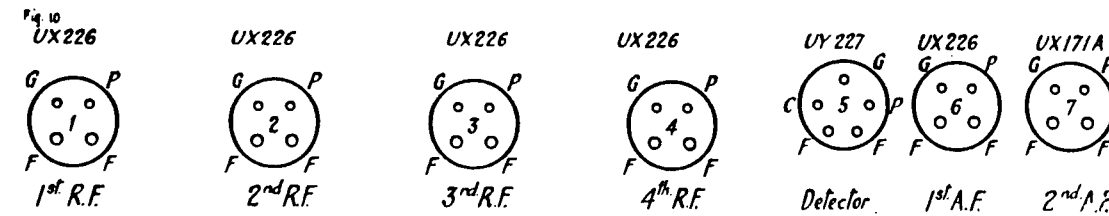

Fig. 10—Valve Sequence and Position of Valve Contacts—Radiola Electric Seven.
- 2. PRELIMINARY VOLTAGE TEST. Before removing the chassis from the cabinet make the following voltage tests across the valve sockets with all the valves in position and with the loudspeaker connected. No reading points to a fault in the Radiola and the chassis should then be removed for Continuity Tests. Fig. 10 shows the relative positions of the valve contacts, the valves being shown in their correct sequence looking down on the chassis top from the top of the Radiola.